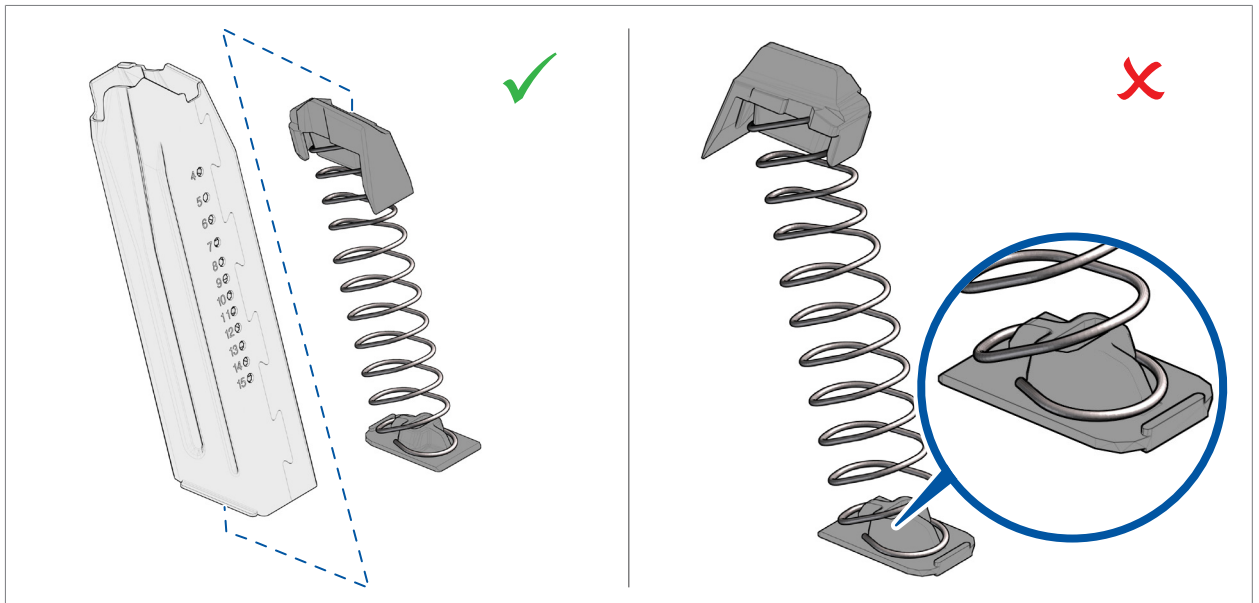

Fig. 73: Observe installation positions
1. Set follower onto magazine spring. Observe installation position (Fig. 73).
2. Place magazine spring onto magazine locking plate. Observe installation position (Fig. 73).